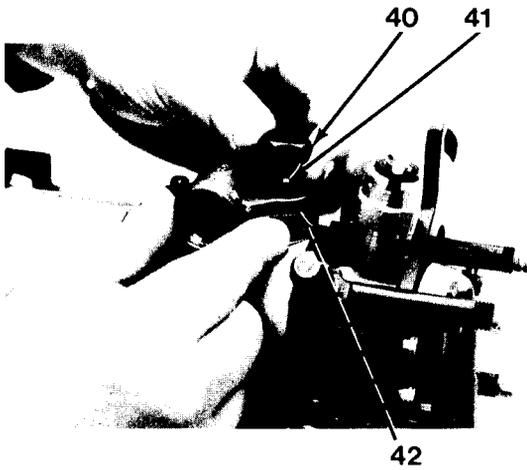
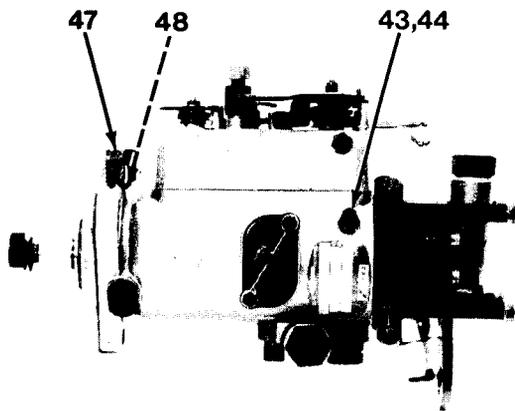

Figure 7-25
Figure 7-26
14. Remove locating fitting and O-rings (40) and ball (41, Figure 7-25).
15. Remove timing housing and gasket (42).
16. Remove assembly screw (43) and washer (44, Figure 7-26).
18. Remove return fitting (47) and washer (48, Figure 7-26).
1. Install return fitting (47) and washer (48, Figure 7-26).
3. Install assembly screw (43) and washer (44, Figure 7-26). Torque assembly screw (43) to 65 lb-in. (7.3 N•m).